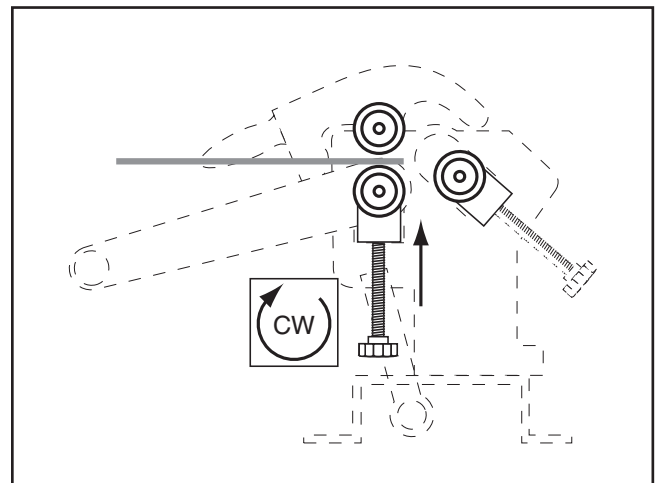

Figure 21. Raising bottom roller.
1. Place the workpiece between the top and bottom rollers, as shown in **Figure 21**. Turn the thickness adjust knobs to lift the bottom roller until the workpiece is held snug between the top and bottom rollers. Be sure to turn the thickness adjust knobs equal amounts.